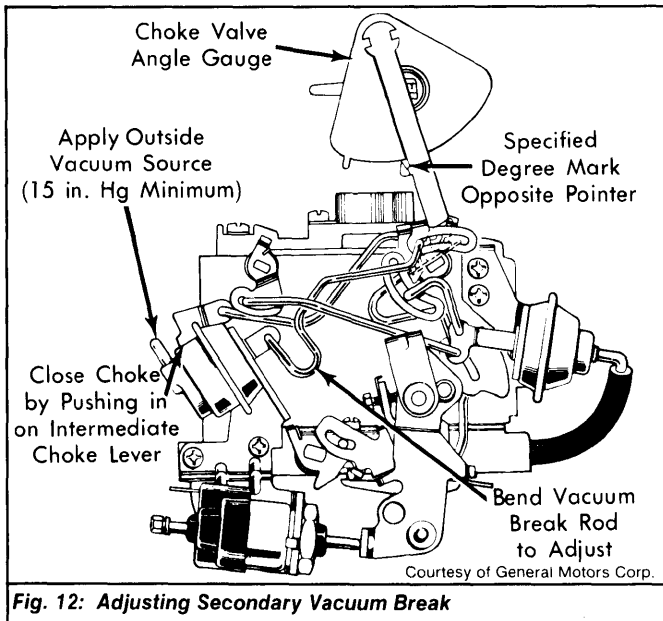

Fig. 12: Adjusting Secondary Vacuum Break
- 2) Set up angle gauge and set angle to specification. Using an outside vacuum source of at least 18 in. Hg, retract vacuum break plunger. See Fig. 12.
4) If angle valve gauge is not used, measure specified clearance between upper edge of choke valve and air horn wall. To adjust, bend secondary vacuum break rod. See Fig. 12.